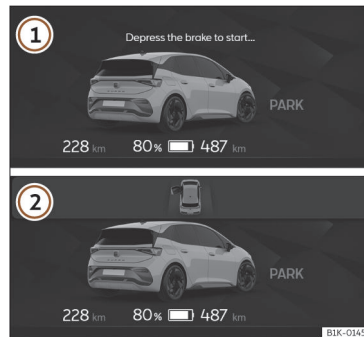

Fig. 9 Digital Cockpit Display
2. When the drive system is inactive, the Digital Cockpit displays the CUPRA Born image >>> **Fig. 9**